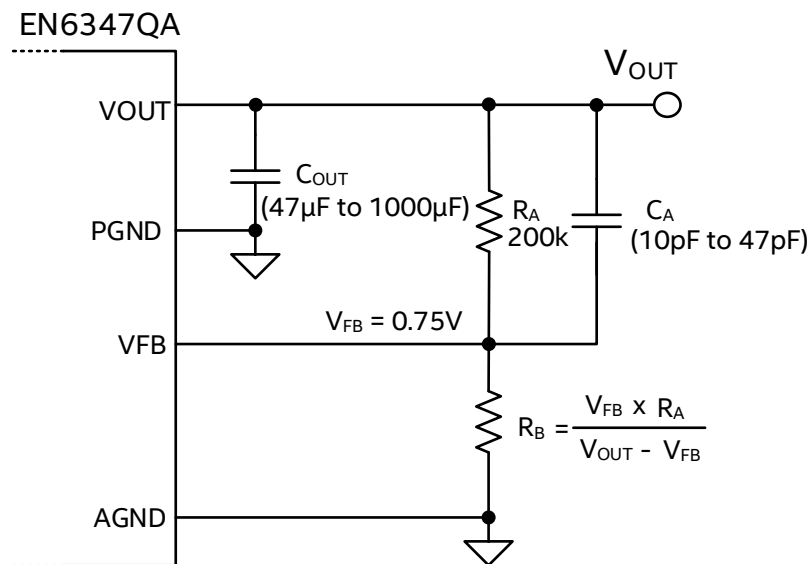

Figure 7. VOUT Resistor Divider & Compensation Capacitor
The EN6347QA uses a Type III voltage mode control compensation network. As noted earlier, a piece of the compensation network is the phase lead capacitor  $C_A$  in Figure 7. This network is optimized for use with about 50-100 $\mu$ F of output capacitance and will provide wide loop bandwidth and excellent transient performance for most applications. Voltage mode operation provides high noise immunity at light load.
The EN6347QA output voltage is programmed using a simple resistor divider network. Since VFB is a sensitive node, do not touch the VFB node while the device is in operation as doing so may introduce parasitic capacitance into the control loop that causes the device to behave abnormally and damage may occur. Figure 7 shows the resistor divider configuration.
**Recommendation 9:** Keep  $R_A$ ,  $C_A$ , and  $R_B$  close to the VFB pin (see Figures 7). The VFB pin is a high-impedance, sensitive node. Keep the trace to this pin as short as possible. Whenever possible, connect  $R_B$  directly to the AGND pin instead of going through the GND plane.